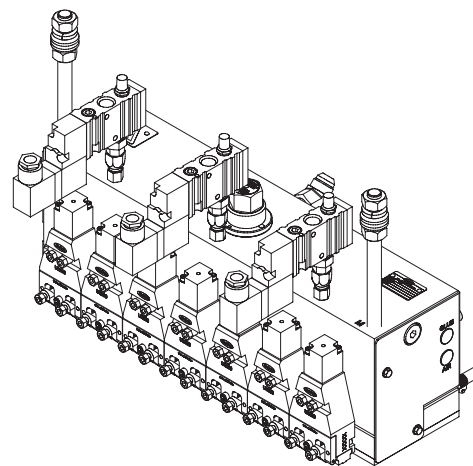
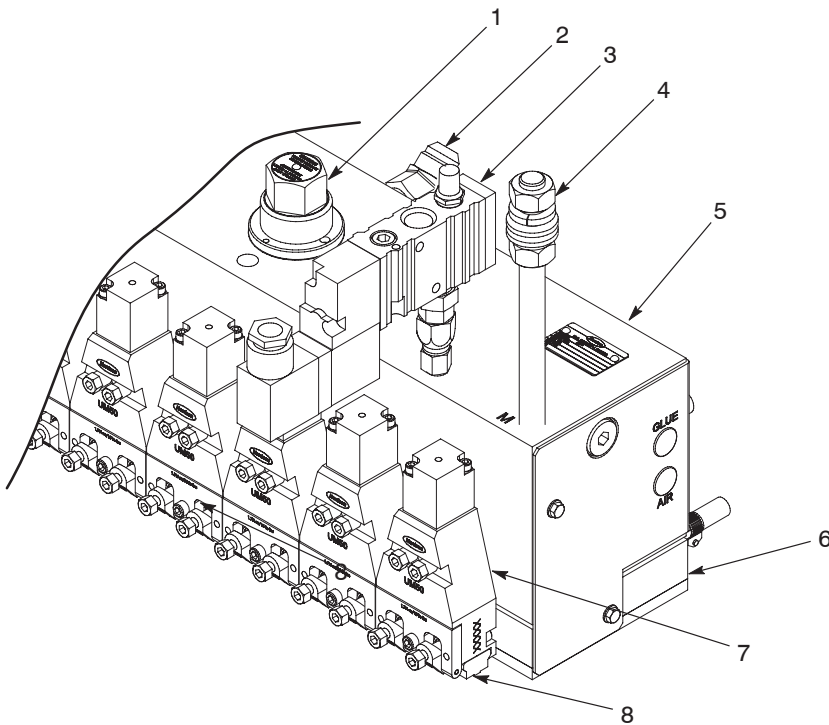

Figure 1 Typical HMS applicator (multi-module applicator with standard adjustable UM50 modules shown)
Figure 2 Key parts of a typical HMS applicator (multi-module applicator with standard adjustable UM50 modules shown)
HMS applicators apply hot melt adhesive to a product. Adhesive enters the inlet port of the applicator and is directed through the heated adhesive manifold into one or more UM50 modules. When the modules are triggered open (via solenoid valves), the adhesive exits the modules through the adhesive passages in the nozzles installed on the UM50 modules. Simultaneously, pattern air flows through the heated air manifold into the air passages of the nozzles, causing the adhesive to form the desired pattern. UM50 modules can produce a variety of patterns, including Controlled Fiberization (CF), meltblown, Summit, SureWrap, and Control Coat patterns. Figure 1 shows a typical applicator. Figure 2 identifies the key parts of the applicator.